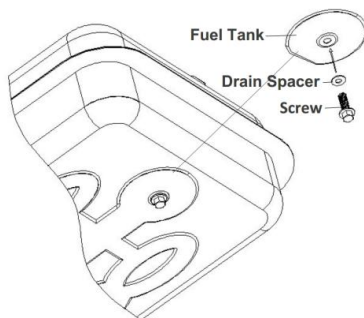

Fig.6 Drain Plug Removal . Pump pressure adjustment
- 2.To remove the Drain plug (DG-K100). Pull the plug grip downward and remove the seal head from the drain hole tank(see Fig.6).